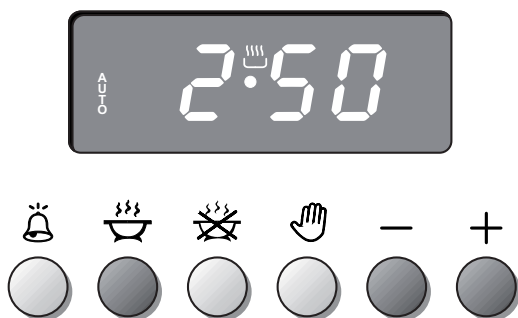

Figure 20
1. Set the length of the cooking period by pushing the  button and the  button to increase, or  to decrease if you have passed the desired time (fig. 20). The **AUTO** and the  symbol will illuminate.